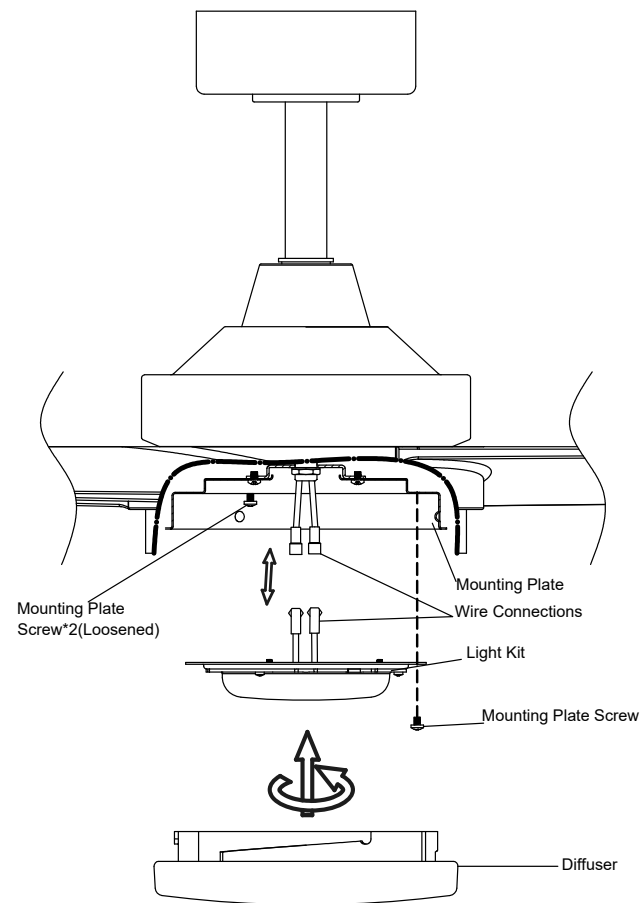

Fig. 17
Step 1. Loosen two of the mounting plate screws on the mounting plate, and remove and save the third mounting plate screw. (Fig. 17)
Step 2. While holding the light kit under your ceiling fan, push the wire connectors together. One from the fan and one from the light kit. (Fig. 17)
Step 3. Tuck the connections neatly into the mounting plate. Place the keyhole slots in the light kit over the 2 mounting plate screws that were loosened from the mounting plate, and turn the light kit (clockwise) until it locks in place against the mounting plate screws at the narrow sections of the keyhole slots. Replace the third mounting plate screw that was previously removed, and tighten all 3 mounting plate screws to secure. (Fig. 17)
Step 4. Raise the diffuser up to the fan, seat against the mounting plate, and turn (clockwise) into the mounting plate until snug, **DO NOT OVER TIGHTEN.** (Fig. 17)